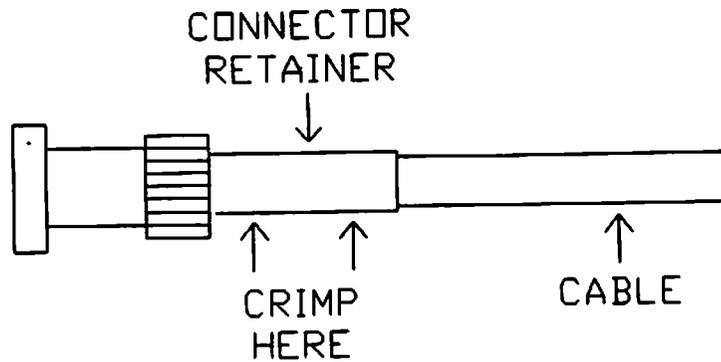

Figure 4
8. Slide the connector retainer up to the back of the connector case. This is best done by placing the face of the connector on a table top and then pushing the connector retainer down. Crimp the retainer where indicated in Figure 4.